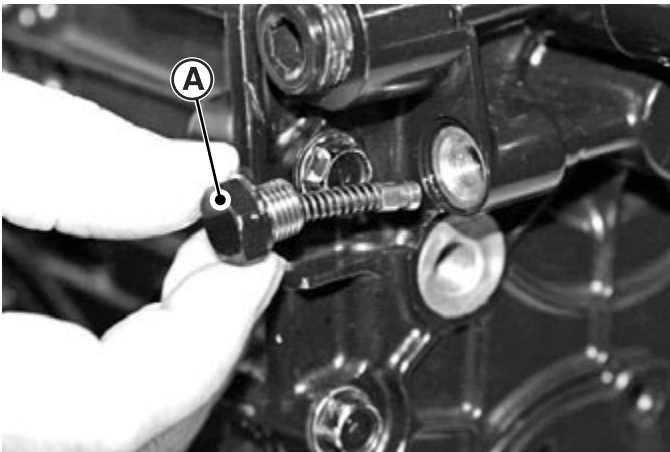

Fig. 12, Relief Valve Plug
- Remove relief valve plug. (Fig. 12)
- Install relief valve plug (A) and tighten to 25 N•m (19 lbft).